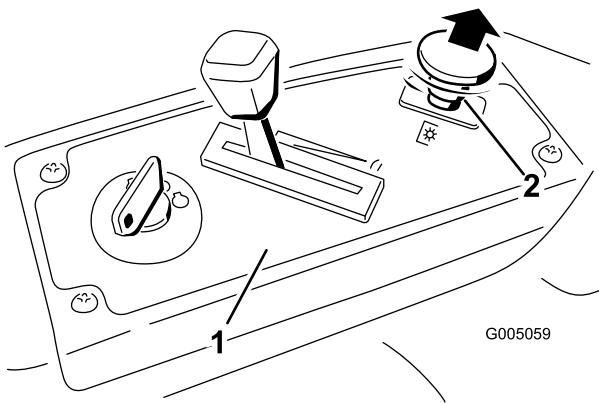

Figure 13
- Pull up on the blade control switch to move it to the On position and engage the blades (Figure 13).